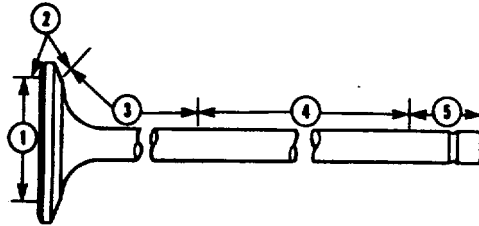

FIGURE 4-12. Valve Acceptance Criteria.
- (e) Use black light supplied with the tester to crack check valve. Verify valves meet the acceptance criteria shown in FIG. 4-12.